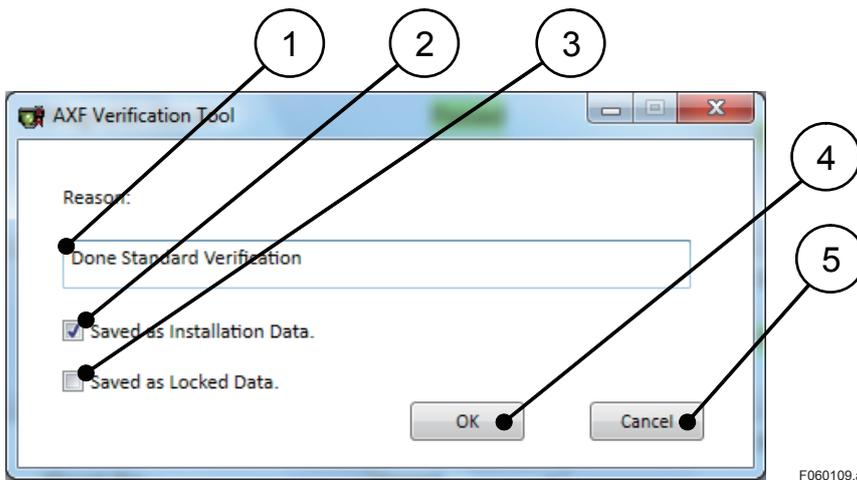
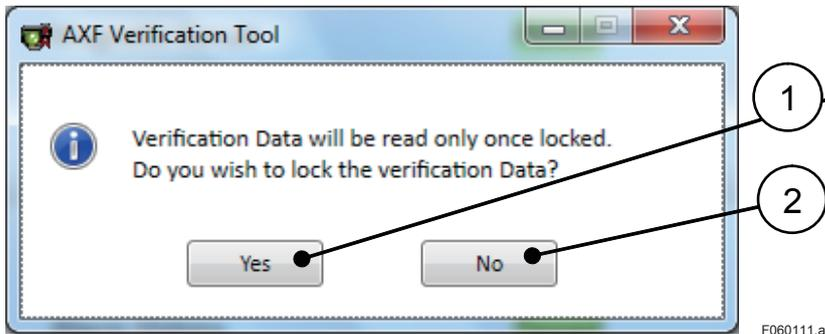

Figure 6.1.9 “Saving Data When “No Flow + Flow” Completed” Dialog
Figure 6.1.11 “Confirm Locked Data” Dialog
1) After clicking the “Save” icon, **Figure 6.1.9** is displayed.
Click “OK” after checking the “Saved as Locked Data” box in **Figure 6.1.9**. **Figure 6.1.11** is displayed.
Click “Yes” in **Figure 6.1.11**.
Click “OK” without checking any boxes in **Figure 6.1.9**.